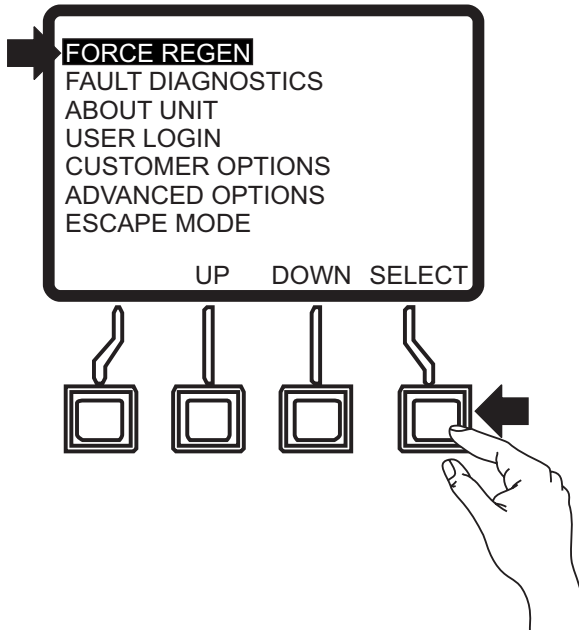

Figure 84. Force Regen Mode
2. Press the Program/Exit button on the ECU-845 Controller and select “FORCE REGEN” mode (Figure 84).